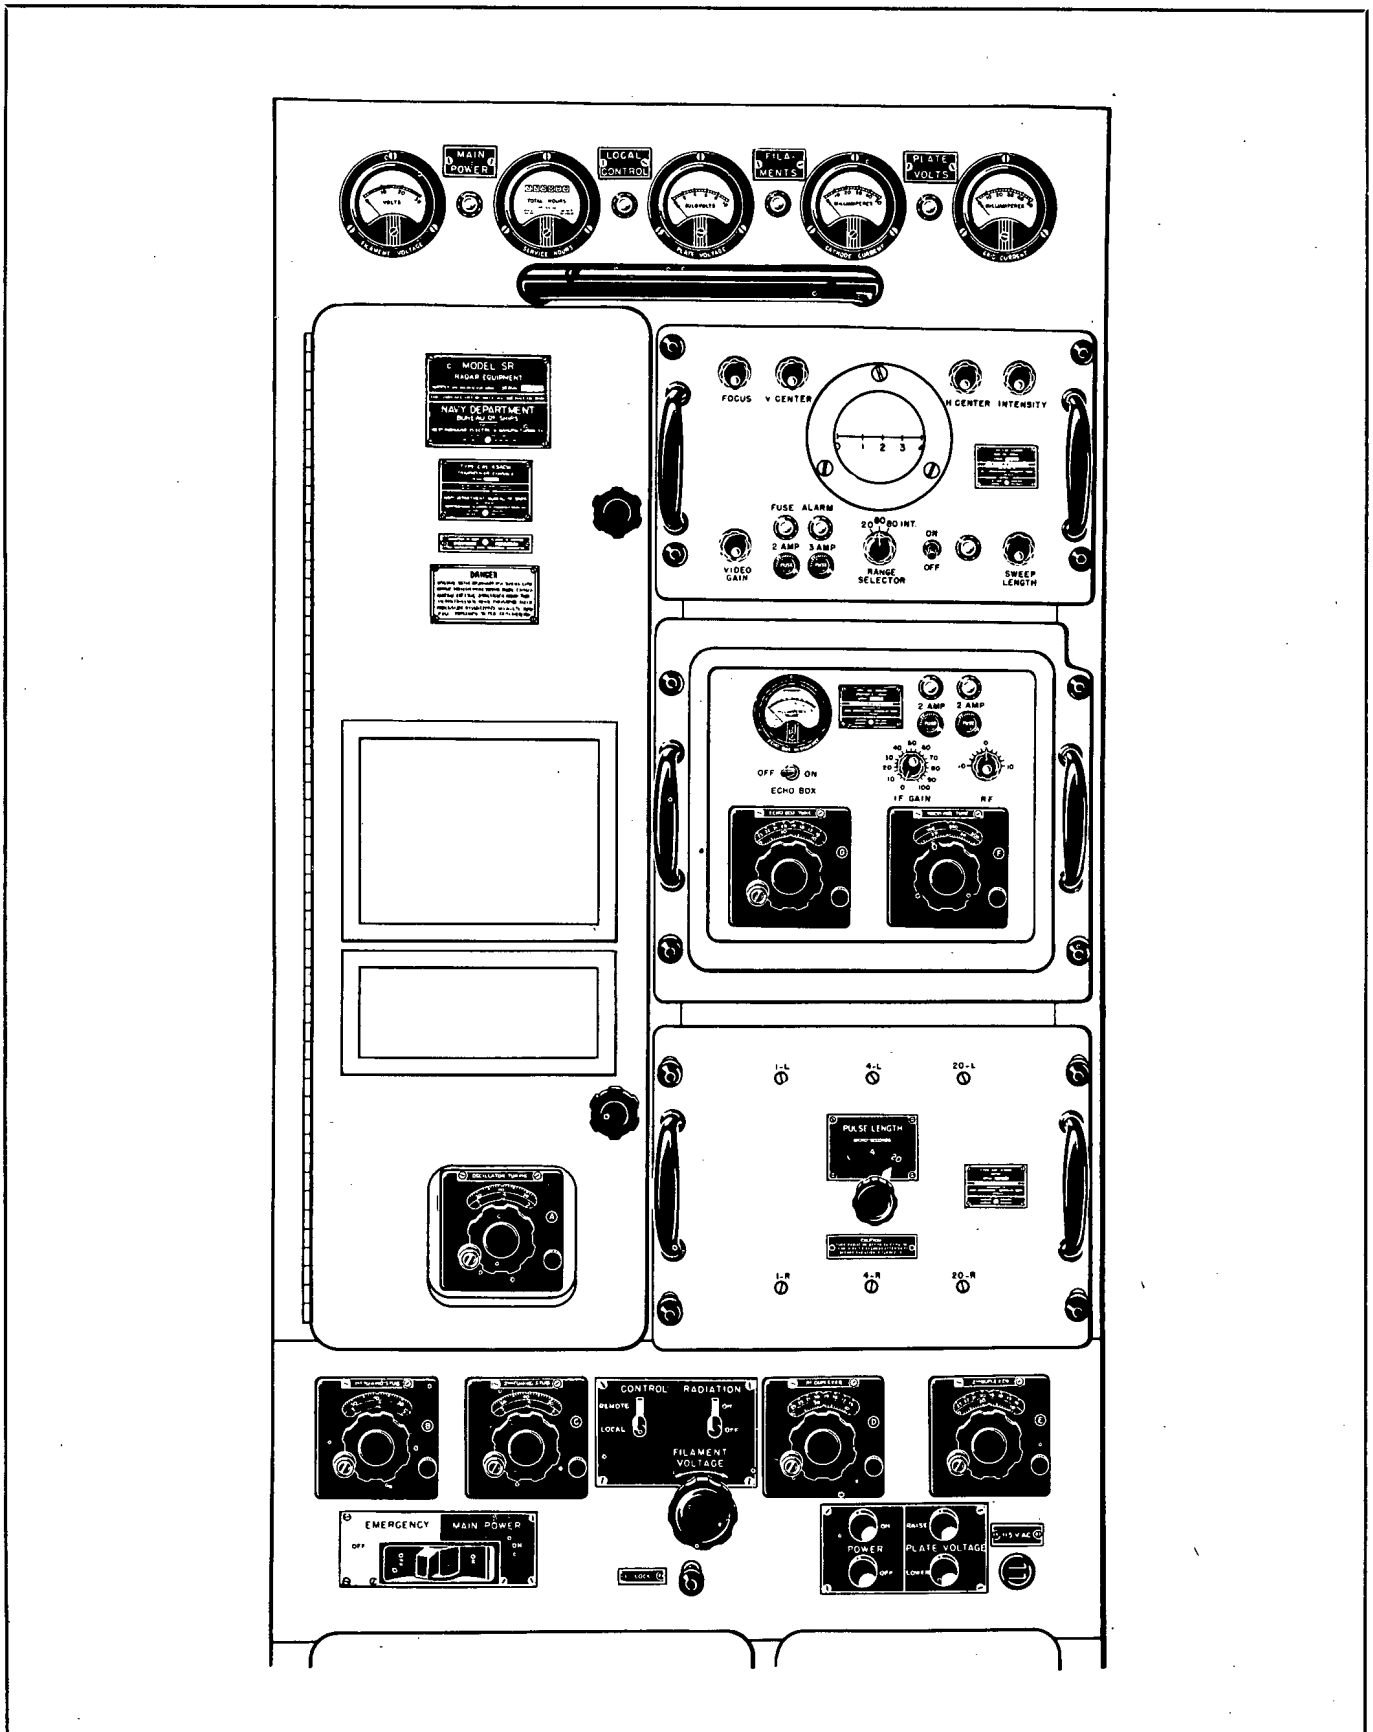
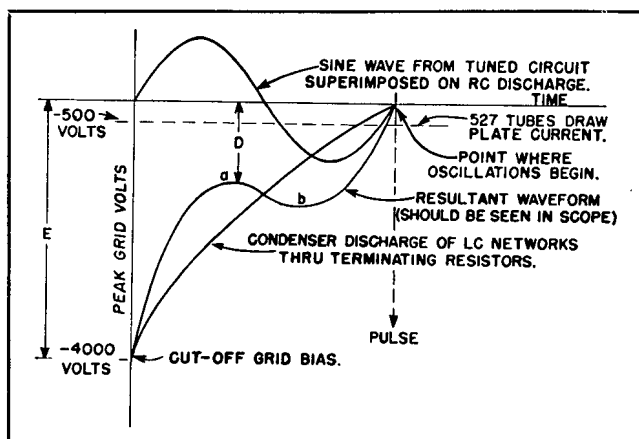
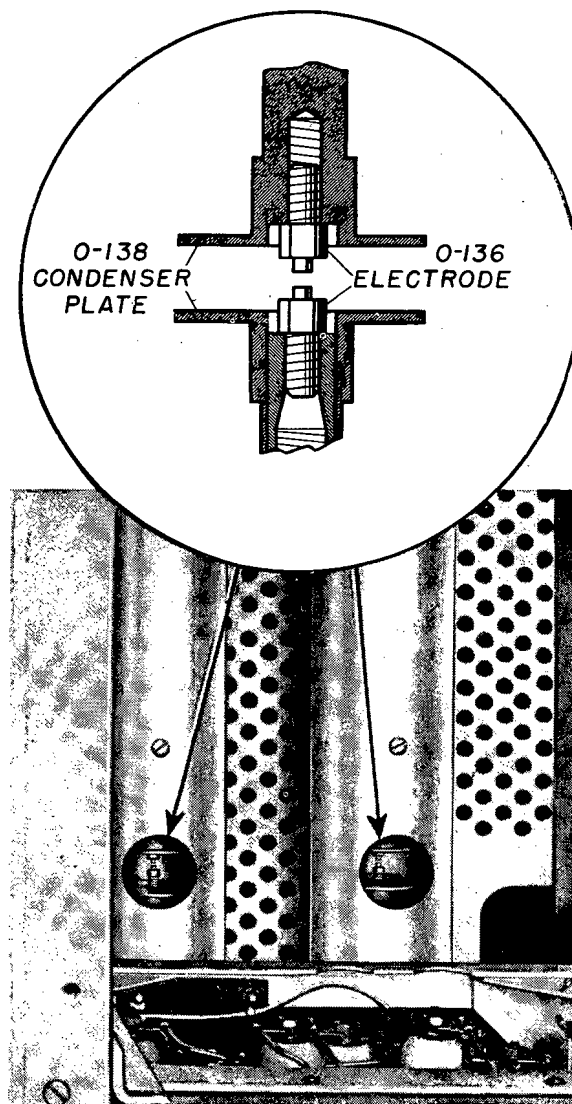

Figure 3-34. Transceiver, Operating Controls
Figure 3-36. Keyer Pulse Waveform Development
Figure 3-39. Duplexer Spark Gap Adjustments
(2) Check the duplexer length. When operating on the blue band, adjust the duplexer length so that the distance between the lower edge of the flange of the upper U-shaped casting connecting the two duplexers and the center of the spark gap adjustment knob is $9\frac{7}{8}$ inches. For the yellow-green band, the distance should be approximately $11\frac{5}{8}$ inches. This adjustment is available when the back cover of the Transceiver is removed.
(3) Check the setting of the duplexer spark gaps. They should be open between $1/32$ and $1/16$ of an inch or roughly one turn of the adjustment knob. These gaps may be observed through openings in the duplexer when the Monitor Receiver is removed from the Transceiver, or when it is slipped forward and the right side shield of the Transceiver is removed.
(4) Place the CONTROL switch S-107 in its LOCAL position. See Fig. 3-34.
(5) From the calibration chart on the front of the oscillator door of the Transceiver, determine the approximate setting of the controls A, B, and C. Place these controls in their approximate positions. Control A is the OSCILLATOR TUNING control, while B and C are the 1st TUNING STUB and the 2nd TUNING STUB controls, respectively. The proper setting of these controls is critical for operation at maximum efficiency. Final adjustment is made after other operations have been completed.
(6) Place the PULSE LENGTH switch S-158 on the panel of the keyer compartment in its 20 microsecond position. This switch is shown in Fig. 3-34.
(7) Place the EMERGENCY-MAIN POWER switch S-101 in its ON position. After five seconds the time delay relay in the Transceiver will operate to permit d-c voltage to be applied to the plates of the oscillator tubes.
(8) Set the filament voltage to 10 volts on the FILAMENT VOLTAGE meter by adjustment of the FILAMENT VOLTAGE control T-106. See Fig. 3-34 for the location of this control.
(10) Adjust the cam controlling microswitch S-111 using the above procedure, so that this switch is open for plate voltages above 700 volts.
(11) Connect an oscilloscope to the grid pulse jack, J-106, on the Transceiver panel. Use the internal horizontal sweep frequency of the oscilloscope and adjust it to approximately the repetition rate of the transmitter which is 60 cps. Make final adjustments of the oscilloscope repetition rate after the signal is applied. Rotate the Antenna until it faces the Echo Box Antenna.
(12) Raise the plate voltage by pushing the RAISE switch S-105 until the PLATE VOLTAGE meter indicates 8 kv with the RADIATION switch in its OFF position.
(13) Place the RADIATION switch ON momentarily and observe the shape of the Keyer wave form on the test oscilloscope. It should be as shown in Figs. 3-36 and 3-37. The plate voltage should increase to 11 kv when the RADIATION switch is operated.
(14) If the waveform is not correct, adjust the 20-R controls a step at a time and repeat (13) after each adjustment. The 20-L control is a Vernier between steps on the 20-R control. If the overload relay trips back the 20-R control off one step, find the correct operating point with the 20-L control. See Fig. 3-34 for the location of these controls. The result of proper Keyer adjustments is an increase in the life of the oscillator tubes and an increase in the overall operating efficiency of the Transmitter. Ideal conditions exist when the discharge period of the RC network is equal to the natural period of the synchronizing voltage as is shown in Fig. 3-36. The positive peak of the resultant waveform should always be at least 15% of the overall waveform amplitude, or excessive oscillator tube heating will occur. Adjust the R and L tap switches until the conditions shown in Fig. 3-36 are satisfied. Distance *D* should never be less than 15 per cent of the total waveform *E*. The top portion of the waveform should be steep and should not round off where oscillation begins. If R is properly adjusted, it should be possible to vary the L tap switch over three or four positions without causing unstable operation. If the waveform seen when operating on the 20 microsecond pulse has several humps between *a* and *b*, it is not an indication of an abnormal condition. These humps are caused by the 60 cycle external synchronizing voltage used only on the 20 microsecond position. It may be found that changing the operating frequency of the Transmitter from one portion of the band to another may cause a change in the Keyer grid pulse waveform. For this reason, a test oscilloscope should be used for observing the grid pulse waveform whenever Transmitter tuning or Keyer adjustments are made. Fig. 3-37 shows actual photographs of typical oscilloscope patterns of the grid pulse waveforms.
(15) Place the Echo Box switch in its ON position. Tune the Echo Box, using the G dial on the Monitor Receiver panel, until a dip in the ECHO BOX RESONANCE meter indication occurs. This presumes that the Echo Box has been changed as described in Navy Field Change No. 30. If the change has not been made, tune the Echo Box to a peak in the meter reading. Check the G dial (ECHO BOX TUNE) reading against the calibration chart. The frequency should be within the frequency range of the Antenna plus or minus 3 megacycles of the center of the band. If the deviation is too great, correct by tuning the A dial. If it is necessary to retune the A dial, repeat the check on the Keyer grid pulse shape
(16) Adjust the 1st TUNING STUB (B) dial and the ECHO BOX TUNE (G) dial alternately for maximum deflection on the ECHO BOX RESONANCE meter. If the waveform changes during this adjustment, readjust the L and R controls on the Keyer and then continue the adjustment of the B and G dials.
(17) Repeat step (16) using the 2nd TUNING STUB (C) dial and the G dial used in step (16).
(18) Repeat steps (16) and (17).
(19) Place the RADIATION switch in its OFF position and place the PULSE LENGTH switch in its 4 position. Place the RADIATION switch in its MOMENTARY position for a brief period of time and observe the shape of the grid pulse. Compare its shape with the ideal shapes shown in Figs. 3-36 and 3-37.
(20) Adjust the 4-R and 4-L controls shown in Fig. 3-34 using the technique described in step (14). Do not disturb the setting of any other controls during this procedure.
(21) Repeat steps (19) and (20) using the 1-R and 1-L controls and the 1 position of the PULSE LENGTH switch. See Fig. 3-34. Check the waveforms against the 1-us waveforms in Fig. 3-37.
(22) Place the ON-OFF switch on the Monitor Scope in its ON position. See Fig. 3-34.
(23) Adjust the V CENTER control (R-324) until the sweep trace coincides with the etched line on the face of the tube.
(24) Adjust the H CENTER control (R-322) until the start of the sweep trace coincides with the 0 position etched on the face of the tube.
(25) Place the FOCUS control (R-331) in approximately the center of its range of rotation. For the location of this control see Fig. 3-34.
(29) Set the RF control on the Monitor Receiver at 0, and set the IF GAIN control at 100. See Fig. 3-34.
(30) Adjust the RECEIVER TUNE (F) dial until target echoes appear on the Monitor Scope. Reduce the setting of the IF GAIN control through the remainder of this procedure as necessary.
(31) Adjust the 2nd DUPLEXER (E) dial for maximum echo amplitude and then adjust the 1st DUPLEXER (D) dial for maximum echo amplitude.
(32) Adjust the RF control for maximum echo amplitude.
(33) Adjust the knurled knobs that control the spark gap spacing until the amplitude on the Monitor Scope is maximum and the spark is clean and blue. See Fig. 3-39. The outer conductors of the r-f lines in the Transceiver are at ground potential and may be handled with safety. DO NOT TOUCH ANYTHING ELSE.
(34) Carefully trim the adjustment of the following controls for maximum echo amplitude in the order given:
- 2nd TUNING STUB (C)